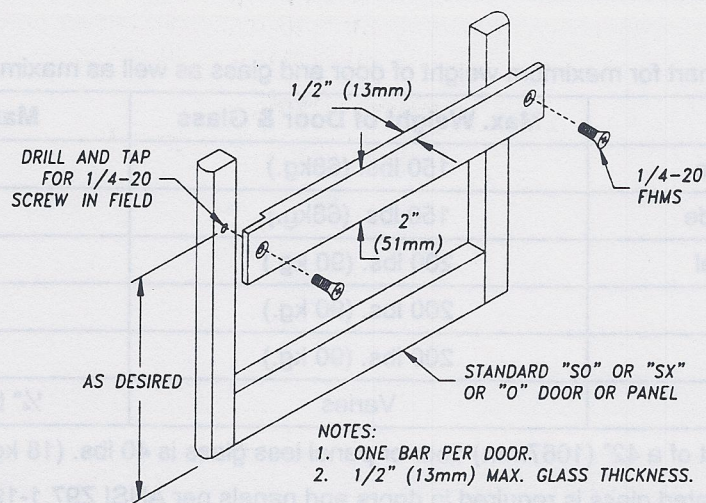

FIGURE 19: Bumper Bar Installation
2. Refer to the following illustration for Dor-O-Matic bumper bar installation (Figure 19).